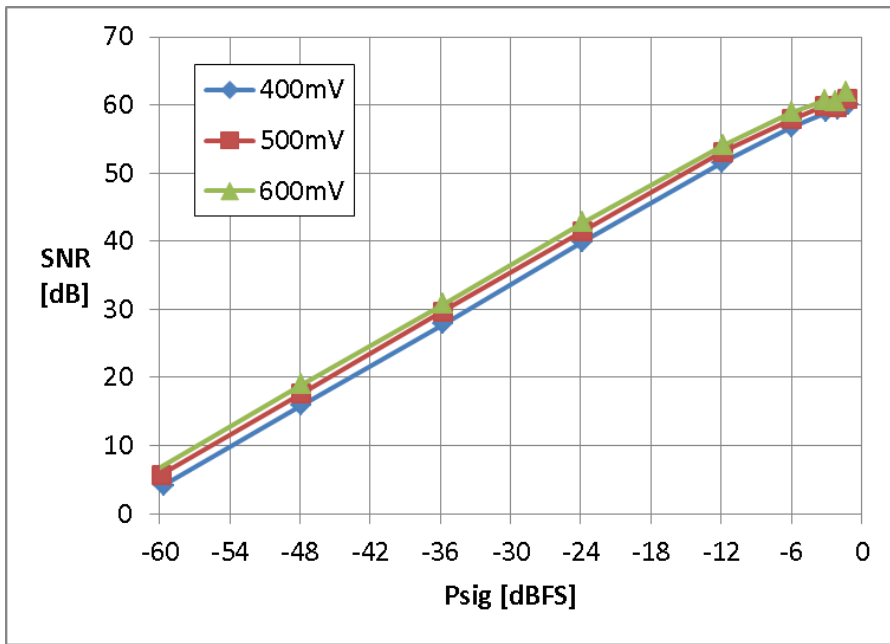

Figure 3: SNR as a function of the input power for the three different settings of the full-scale voltage
Figure 3 shows the SNR as a function of the input power for the three different settings of the full-scale voltage. For the 0.6V gain setting and low input powers, the dynamic range (DR) is 67 dB and for full-scale signals the SNR is 63 dB. For 0.5V and 0.4V gain settings, the DR is 1 dB, respectively 2 dB less, due to the reduced input power.